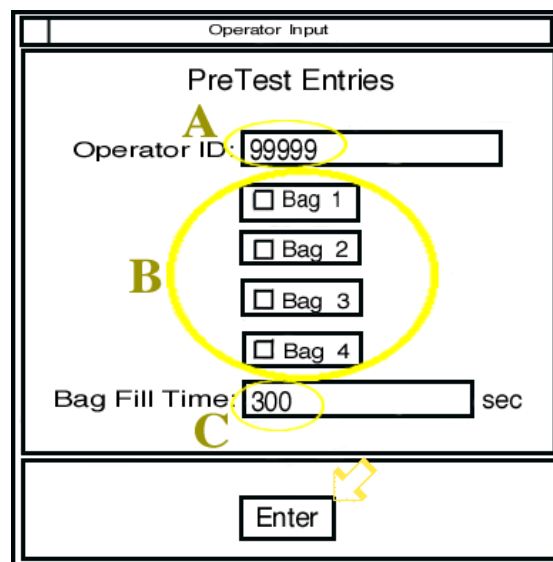

Figure 9
- 107 On the "Pre Test Entries" menu: Click in the "Operator ID" field and use the keypad to enter your operator ID number. See the field labeled "A" in Figure 9. Click on the correct "Bag #," where # equals 1, 2, 3 or 4. See the fields next to "B" in Figure 9. For "Bag Fill Time," click in the field and use the keypad to enter 300. See the field labeled "C" in Figure 9. Click on the "Enter" button. See the arrow in Figure 9.